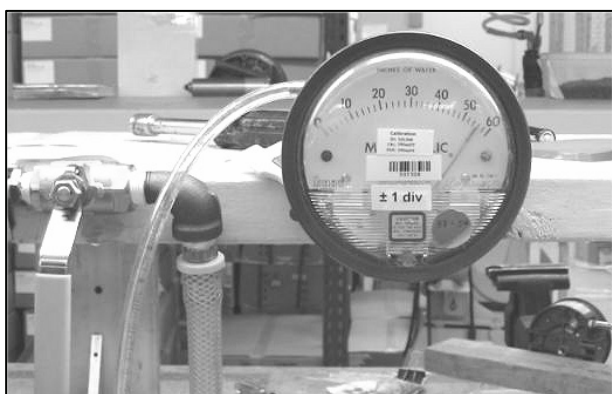

Figure 36. Magnehelic Gauge Connection to Hose Barb
3. Apply compressed air, wait for air to exit the hose barb in the test port, and then connect the Magnehelic gauge (Figure 36) to the hose barb using the vacuum hose or vinyl tubing. This prevents the gauge from reading maximum pressure due to the large velocity of compressed air entering the primary chamber.